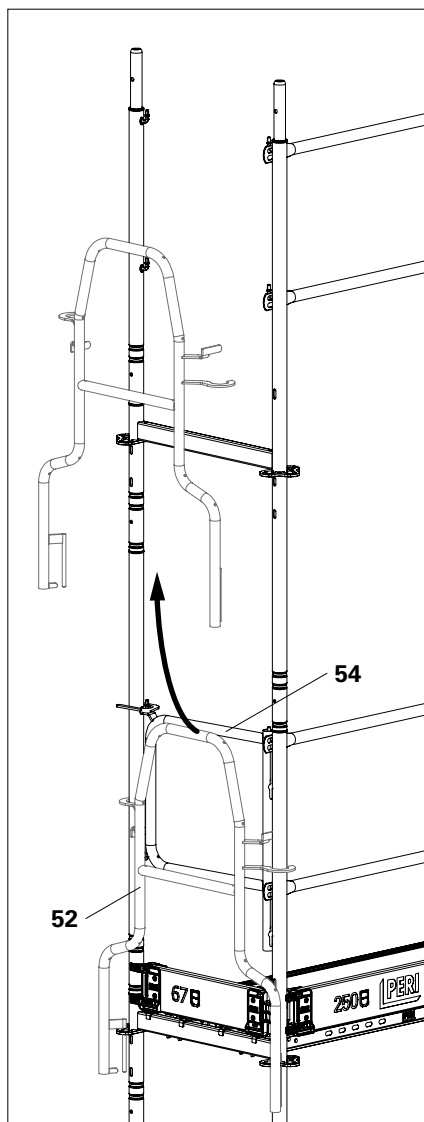

Fig. A3.17a
1. Installation of the End Guardrail in Advance UPA-2 (52) for the next level takes place from a safe position, see previous section. (Fig. A3.17a)
2. Install End Guardrail EPF (54) in addition to End Guardrail UPA-2, see previous section.
- The End Guardrail in Advance UPA-2 can be dismantled again and used for the next level. (Fig. A3.17a + A3.17b)